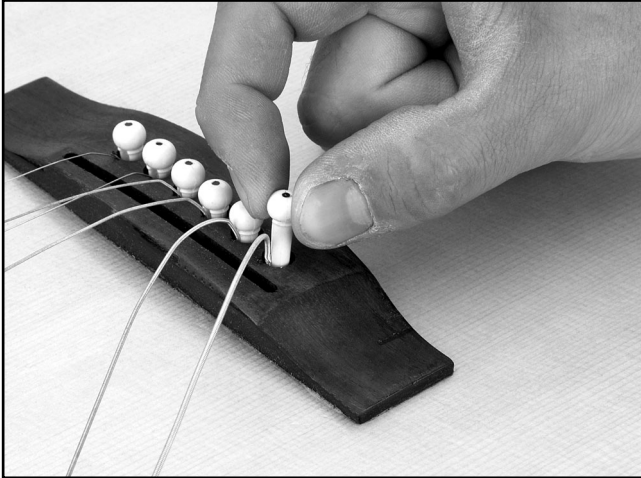

Figure 14. Installing the strings.
4. Slide the bridge pin down the string and into the bridge hole (**Figure 14**). Note—*Press the bridge pin secure so it will not come loose under string tuning tension.*